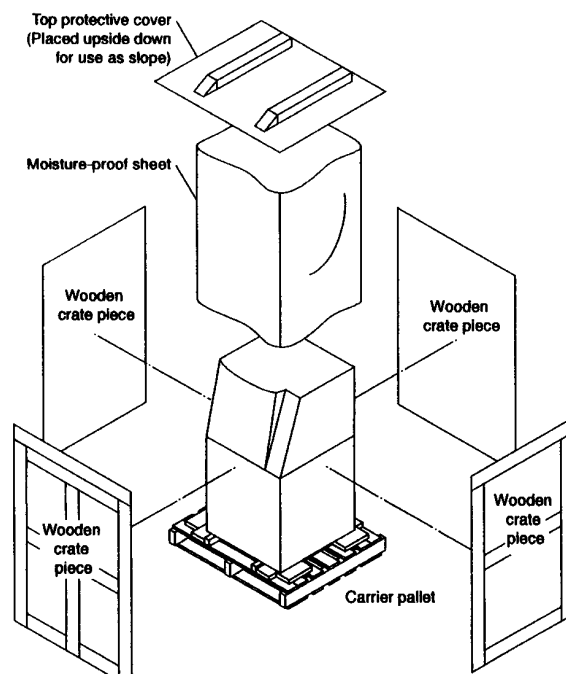

Fig. 2
- Remove the moisture-proof sheet (Fig. 2).